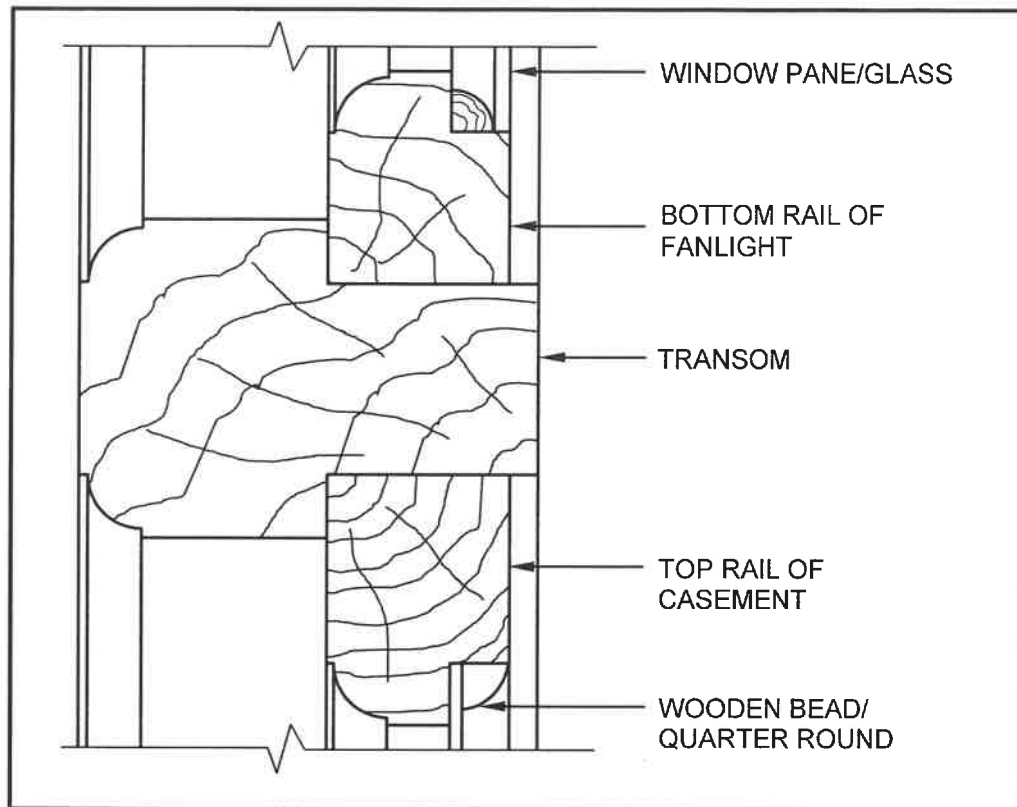

FIGURE 3.3
- 3.3 FIGURE 3.3 below shows an INCORRECT vertical sectional view through a part of a casement with a fanlight.